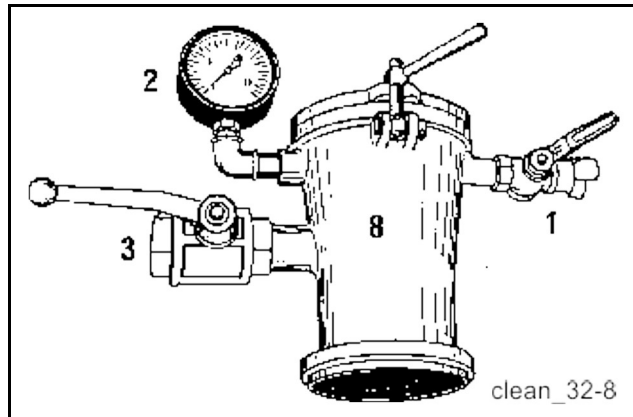

Fig. 93
- Connect the pressure hose, e.g. to the junction (1) of the pumping line cleaning nozzle (**Fig. 93**).
- Open the air drain cock (3) (**Fig. 93**) in order to prevent pressure peaks when switching on the compressor.